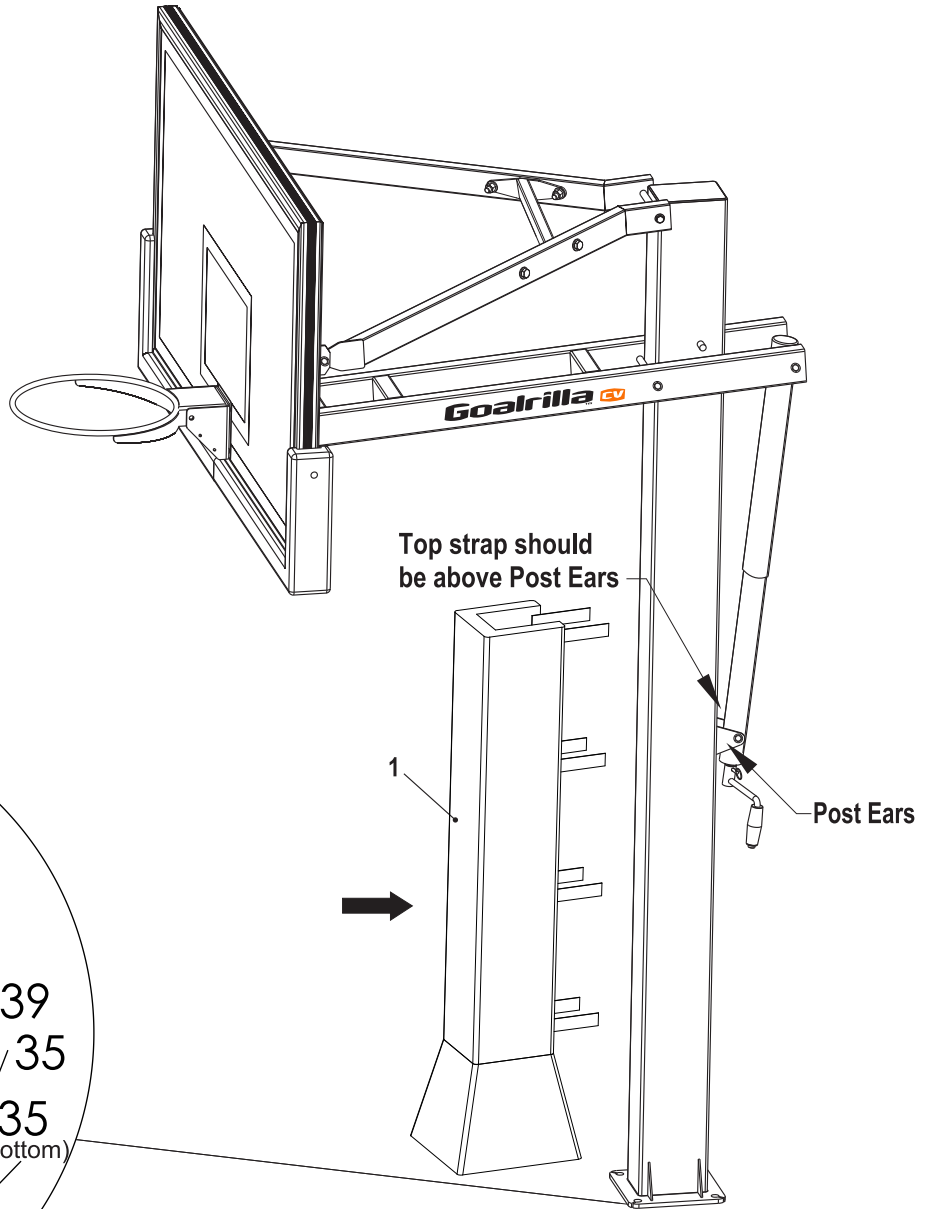

Figure 15
28. Secure Post Pad (#1) to front of pole by wrapping straps around the back pole and sticking to velcro on opposite side of Pad. Top Post Pad straps should be above Post Ears. See **Figure 15**.